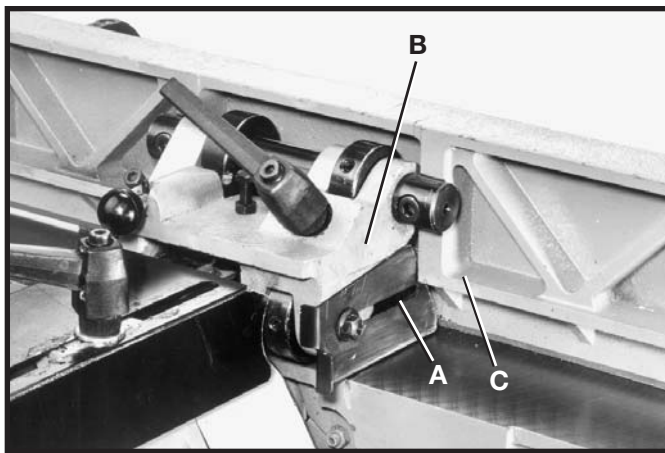
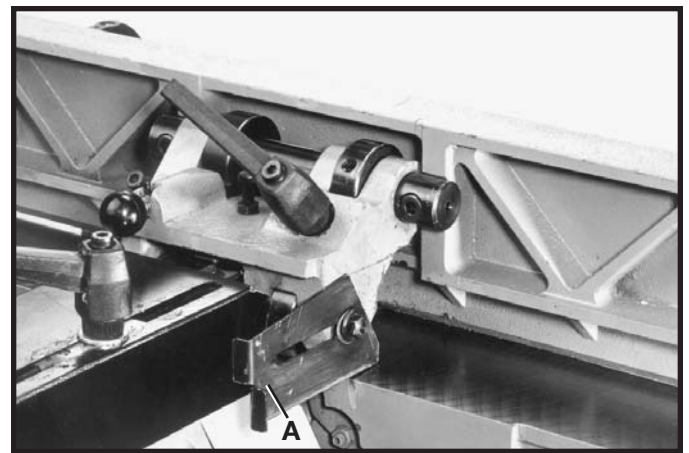

Fig. 55
Fig. 56
Two guards, one of which is shown at (A) Fig. 55, are provided on each side of the fence bracket to close up the opening between the fence bracket (B) and the fence (C) limiting access to the cutterhead. When the fence is tilted, the guard (A) Fig. 56, can be pushed to the rear as shown. After the fence is returned to the 90 degree position, push the guard (A) Fig. 56, forward to close up the opening. Fig. 55, illustrates the guard (A) properly adjusted.